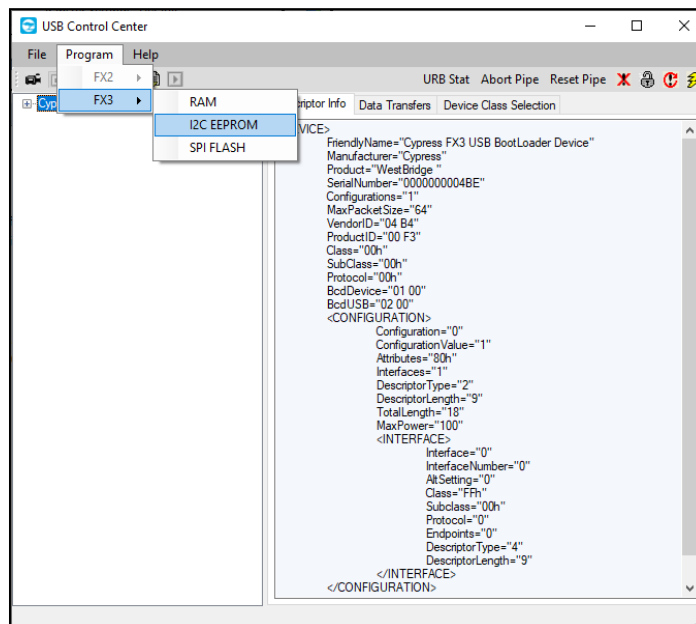

Figure 4.2. Cypress USB Bootloader – Default Screen
- Screen will show the boot loader device as shown in below Figure 4.2. Cypress USB Bootloader – Default Screen